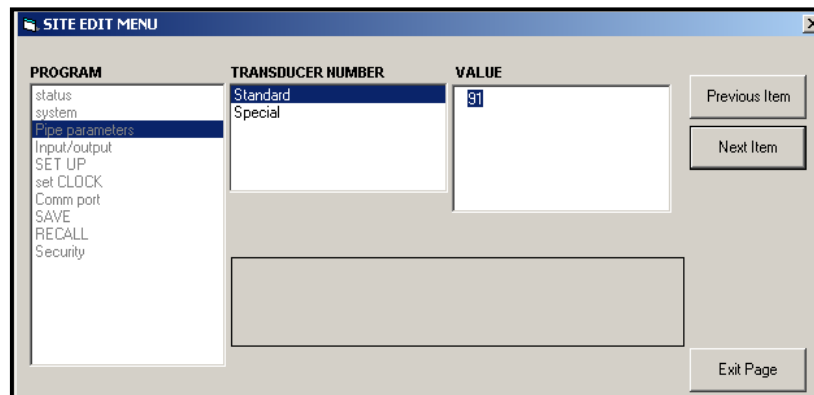

Figure 37: Pipe Parameters Option in Site Edit Menu
- Highlight and double-click on the desired option in the left pane. *Figure 37* below shows the first entry (Transducer Number) in the Pipe parameters option. The title above the center pane lists the current entry, while the center pane displays the available selections for that entry.